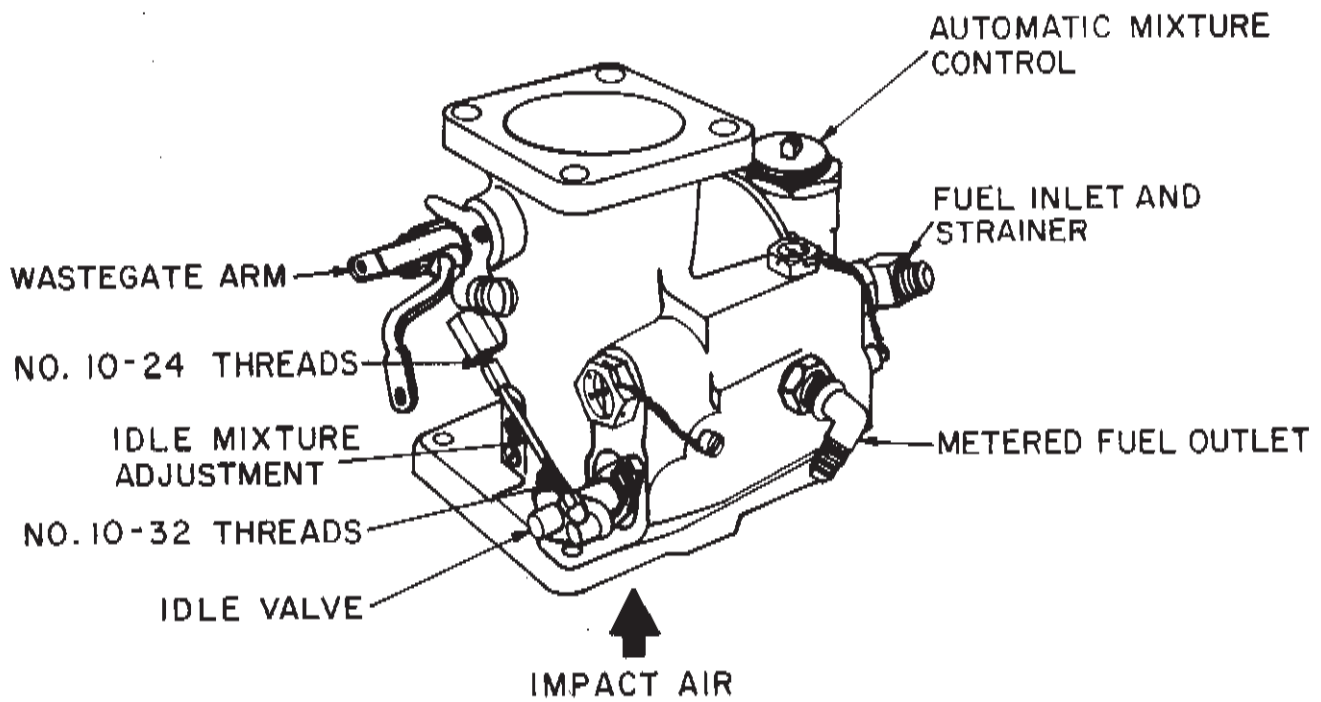

FIGURE 13-4 FUEL SERVO
(8) Injector - Adjustments (See Fig. 13-4)